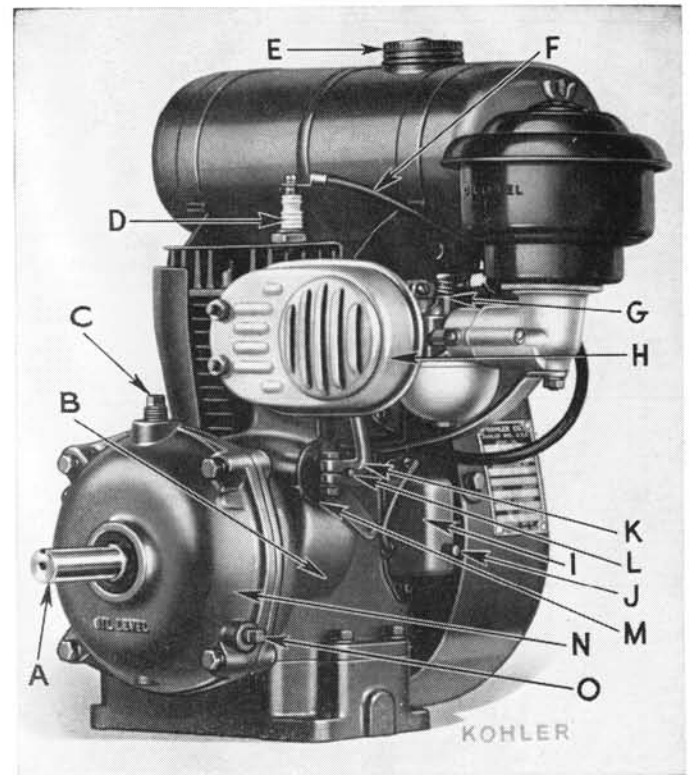

Figure 1
If engine is equipped with a reduction gear unit, remove both plugs (See C & O, Fig. 1) and add oil (same grade as used in crankcase) to level of hole O. Replace both plugs. The vent in the oil-fill-hole plug of the reduction gear unit must be open.
Press the "stop" button (See J, Fig. 1). When stopping the engine for long periods, we recommend that you shut off the fuel supply at the valve on the sediment bowl (instead of using the stop button) and allow the engine to run until the carburetor is empty. The engine will run approximately one minute (under full load) after the fuel supply has been shut off. Valve must be opened again before attempting to start the engine.
4. If spark does not jump this gap remove cover (See I, Fig. 1) and check breaker points. They must be clean, and gap should be .020".